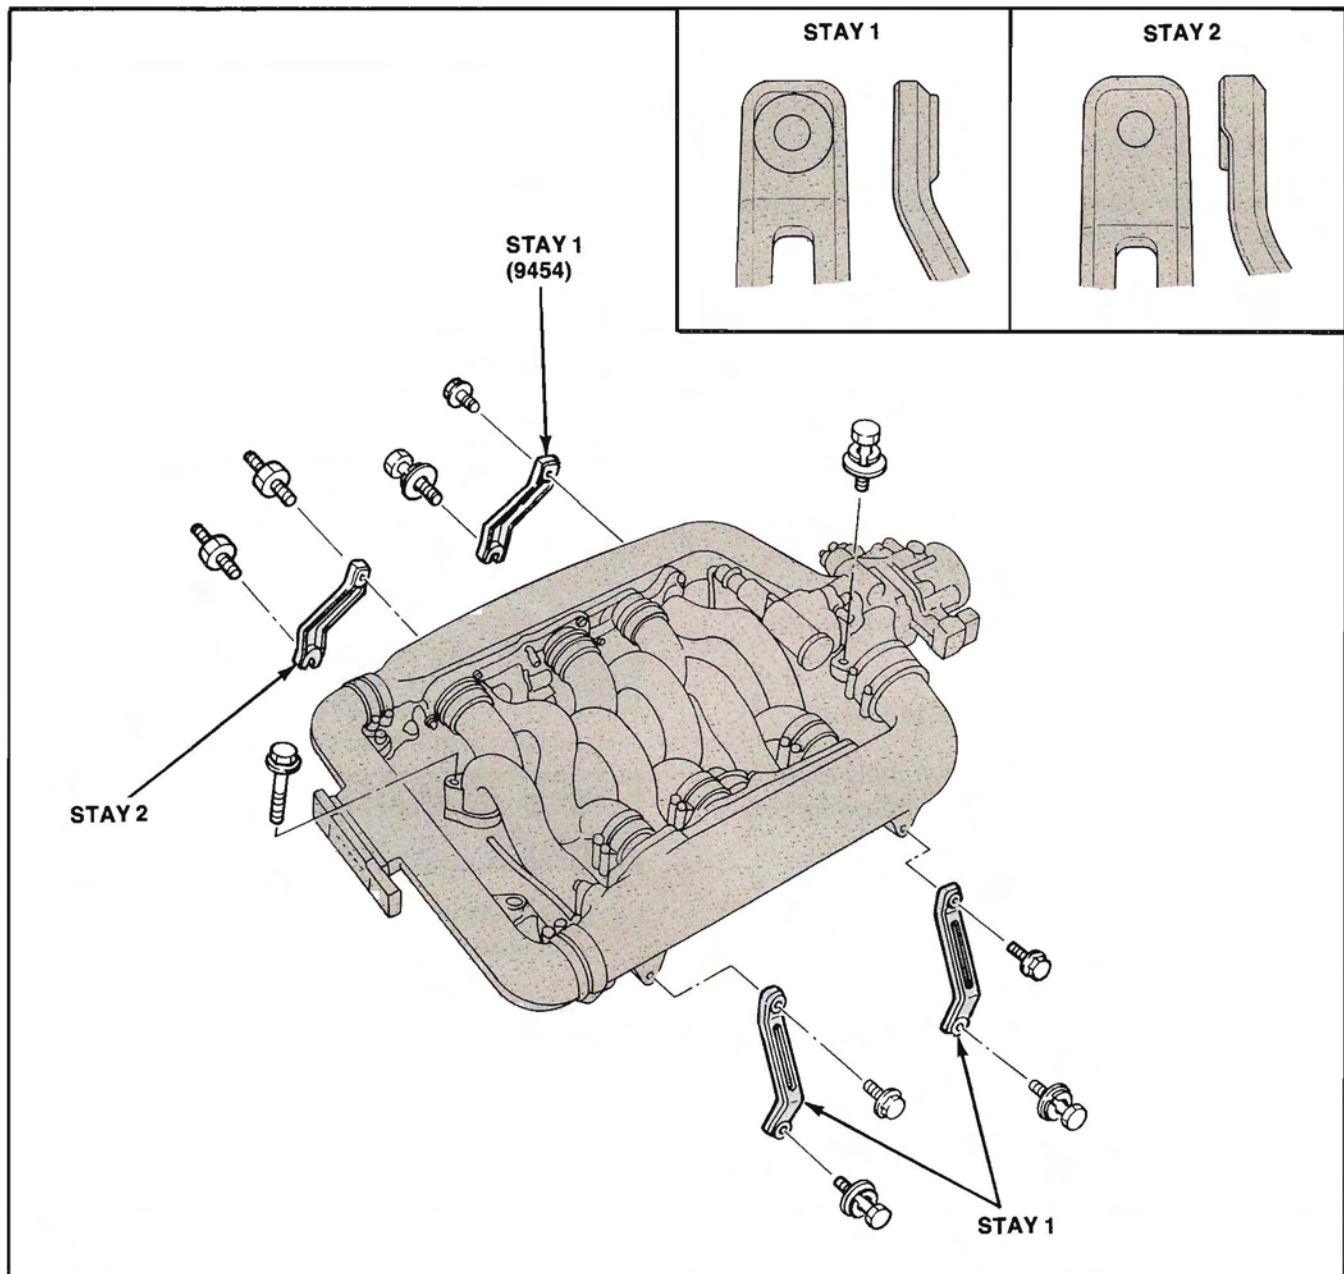

Figure 167. Surge Tank Stay Installation
3. Install surge tank stays 1 and 2 (Fig. 167). Note the differences between the stays.